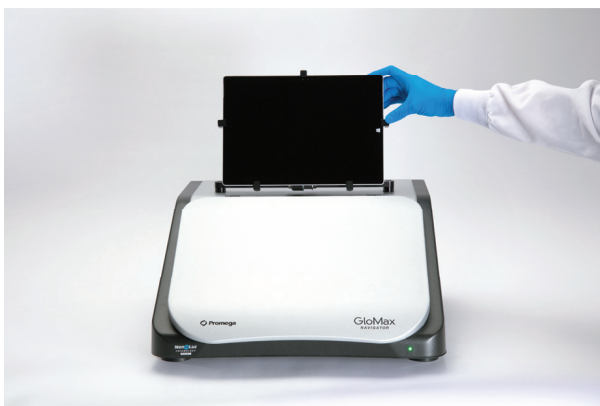

Figure 4. Instrument front and Tablet PC holder setup.
2. Place the Tablet PC in the Tablet Holder on the top of the GloMax[®] Navigator Instrument in the orientation shown in Figure 4.